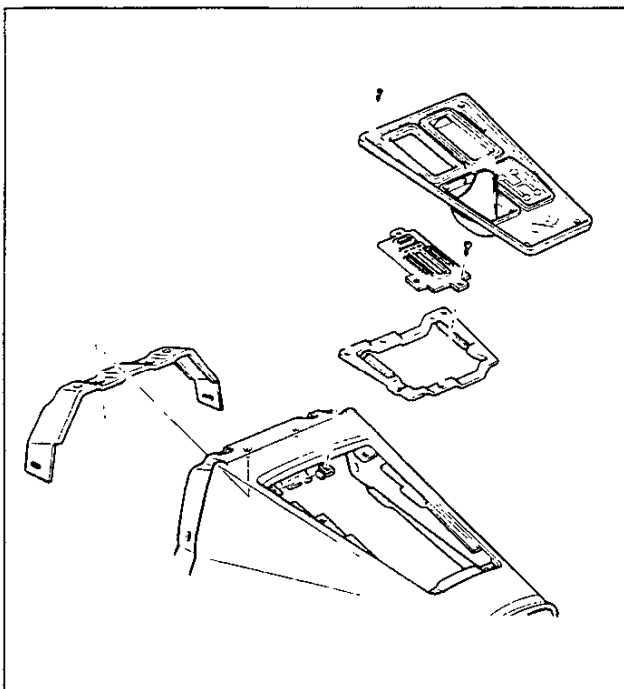

Fig. 8-Front Console Assembly
3. Remove bolt at rear portion of console. Access bolt through opening created in step 2. Remove four (4) screws (two (2) per side) on side of rear portion of console.
6. Having first disassembled heater and side vent controls, shift knob assembly, boot assembly, and trim plate, remove front console assembly by carefully pulling rearward and upward (fig. 8).